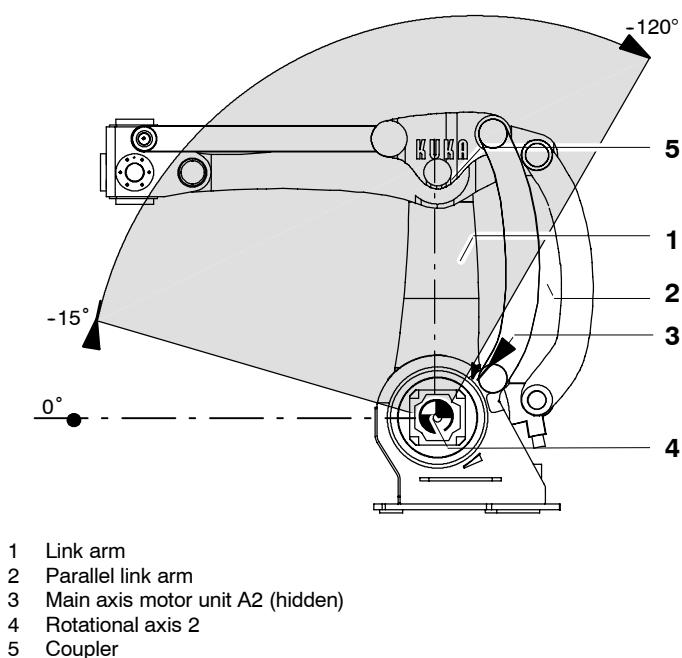

Fig. 4 Link arm with turning range
The link arm (Fig. 4/1) is the driven element of axis 2. It pivots about rotational axis 2 (4) through an effective software range from -15° to -120° – referred to the electrical zero position of axis 2. The mechanical zero position corresponds to the horizontal position of the link arm (1) in Fig. 4. The link arm assembly also includes the parallel link arm (2). Driven by a crank, the parallel link arm moves the arm. The link arm is driven by main axis motor unit A2 (3) via a gear unit.